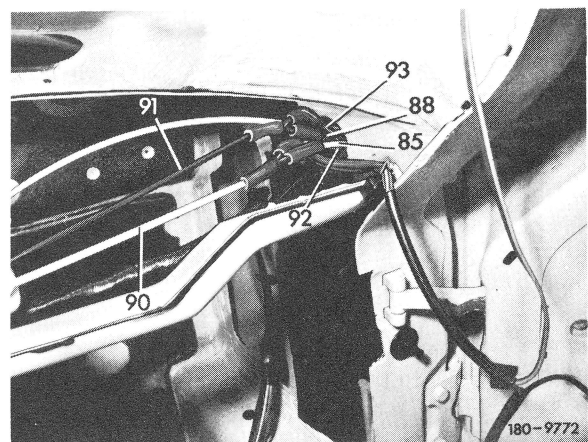

Fig. 2
Remove lateral and top cover at front right in legroom (Fig. 2), which will make the distribution members for checking righthand driver's door, flap of tank filler neck and trunk lid accessible.
Check vacuum elements for flap of tank filler neck and trunk lid by means of line (85) (Fig. 2).
Check righthand driver's door on line (92 and 93). Connect tester to (white or black) line and evacuate (Fig. 2).